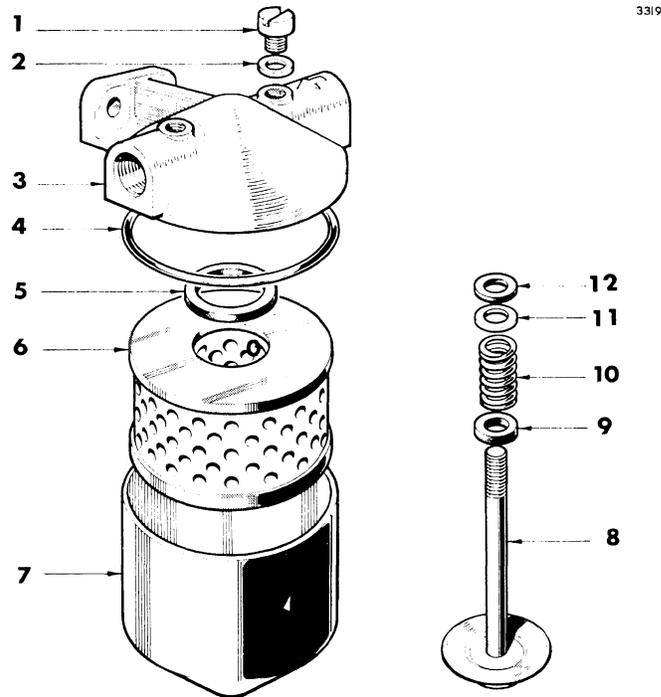

Fig. C1. Fuel Filter Assembly
- (1) The first filter should be a gauze trap in the filler of the fuel tank; this must not be removed when fuel is being poured into the tank. It should be taken out every 500 hours, cleaned, washed in fuel oil, and immediately replaced. If there is no filter in the filler of the fuel tank the fuel should be poured through a fine gauze strainer.
- (2) The second filter (optional) should be a pre-filter (water trap and screen assembly) installed in the fuel line between the fuel tank and the fuel lift pump. This filter should be cleaned every 250 hours unless the condition of the fuel warrants more regular attention.
- (3) The third final filter (Fig. C1) is mounted to a bracket secured to the engine front cover. It is an element type filter and must be replaced every 250 hours. To replace this filter element proceed as follows:
- (a) Unscrew the bolt on the bottom of the fuel filter bowl from filter head (3) and withdraw the bowl with its attached bolt. Remove and discard element. Do not remove bolt from bowl.
- (b) Remove the bowl "O" ring gasket (4) from its groove in the filter head. Replace new "O" ring gasket.